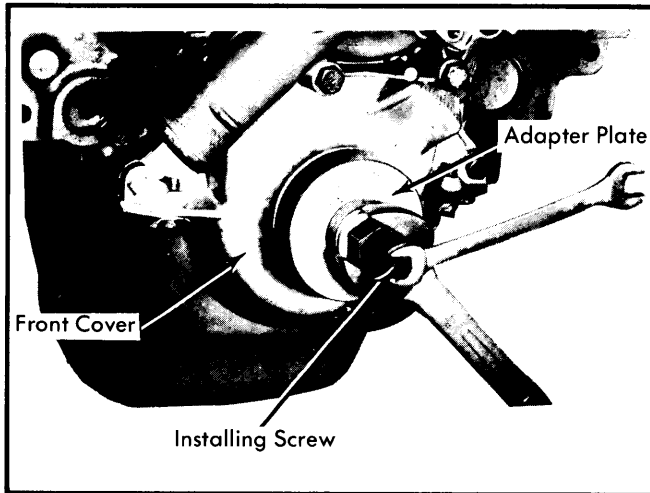

Fig. 12 Installing Front Cover Seal
**Installation** — Install new seal by using seal installing tool C-4251 (or equivalent). Install threaded shaft part of tool into threads of crankshaft. Place seal into opening with springs towards inside of engine. Place adapter with thrust bearing and nut on shaft. Tighten nut until tool is flush with cover. Reinstall vibration damper, crankshaft pulley, fan, shroud and belts. See Fig. 12.